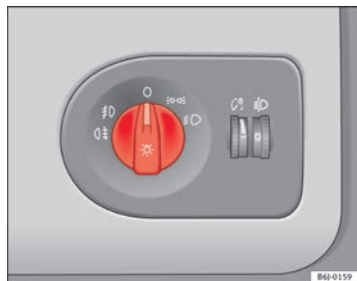

Fig. 54 Detailed view of the dash panel: lights, fog lights and rear fog light switch
- Turn the light switch \Rightarrow Fig. 54 to position \Rightarrow .